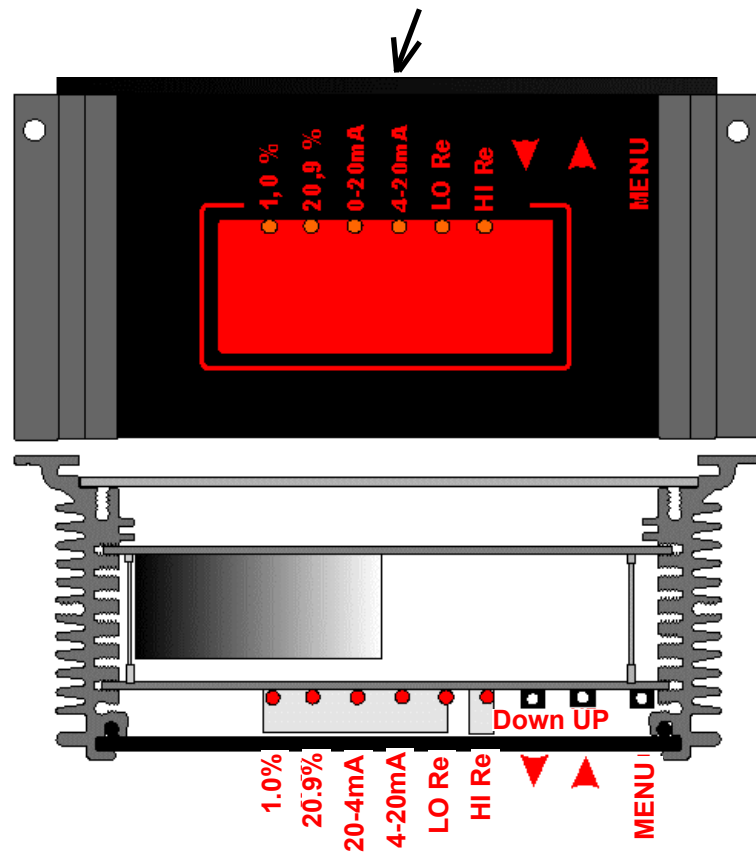

Fig.8
6. Press the **MENU** button in the oxygen meter several times, until the light diode 20.9% is lit-Fig.8)